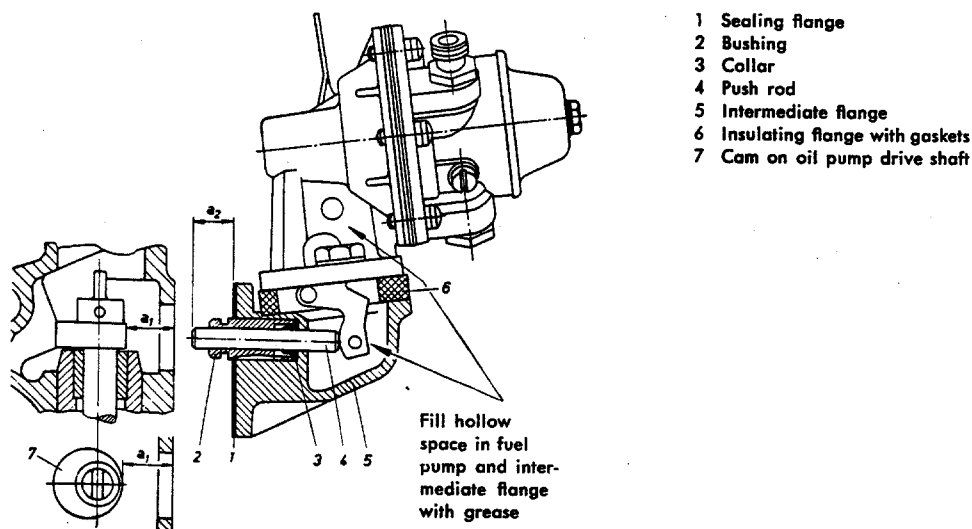

Fig. M 34/00
Note: If the pump shows high pressure, this may be attributed to an excessive pump stroke or to the fact that the pump diaphragm has hardened. In either case the pressure can be reduced to the permissible value by interposing shims between intermediate flange and crankcase. With push rod at pressure point and cam on oil pump drive shaft at BDC, the play between rod and cam should be 0.4 to 0.5 mm (0.016 to 0.02"). See Fig. M 34/00.
3. Before installing the fuel pump, check play between push rod and cam; the difference between a_1 and a_2 must be 0.4 to 0.5 mm (0.016 to 0.02"). If the play does not meet the specifications, correct it by using a correspondingly thicker or thinner gasket (1). See Fig. M 34/00.